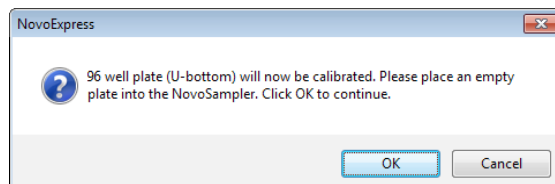

Figure 2-7 Dialog Box Prompted when Clicking Calibrate Button
- **Calibrate:** Click this button to calibrate the selected plate type. Only calibrated plate type can be used in experiments. The *Calibrated* checkbox indicates if the selected plate type is already calibrated. Figure 2-7 shows the dialog box prompted when the *Calibrate* button is clicked.